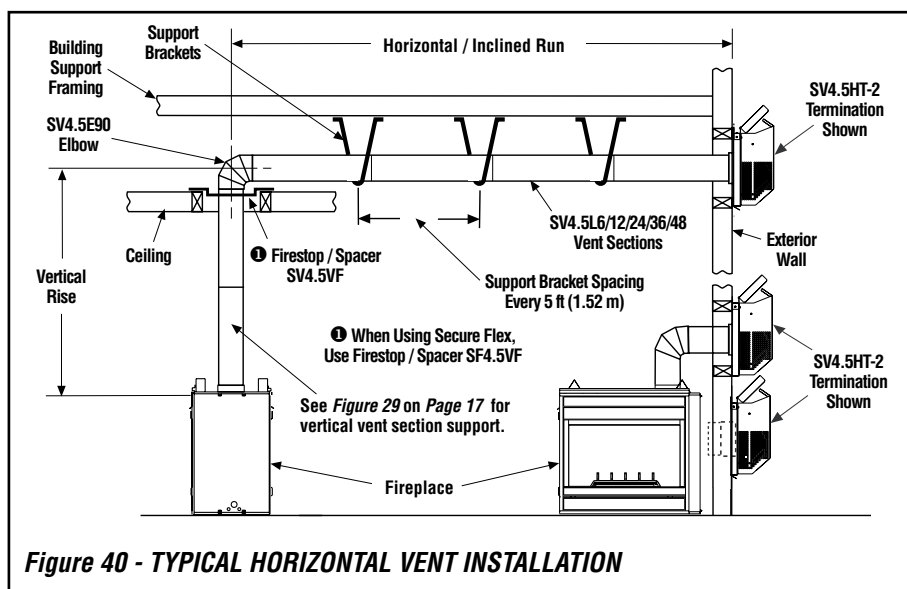

Figure 40 - TYPICAL HORIZONTAL VENT INSTALLATION
Figures 40, and Figures 43 to 48 on Pages 25 to 27 and their associated Horizontal Vent Table illustrate the various horizontal venting configurations that are possible for use with these appliances. **Secure Vent®** pipe applications are shown in these figures; **Secure Flex®** pipe may also be used. A Horizontal Vent Table summarizes each system's minimum and maximum vertical and horizontal length values that can be used to design and install the vent components in a variety of applications.
I. Continue installation of horizontal/inclined sections - Continue with the installation of the straight vent sections in horizontal/inclined run as described in **Step E**. Install support straps every 5 ft. (1.52 m) along horizontal/inclined vent runs using conventional plumber's tape. See **Figure 40**, it is very important that the horizontal/inclined run be maintained in a straight (no dips) and recommended to be in a slightly elevated plane, in a direction away from the fireplace of 1/4" rise per foot (20 mm per meter) which is ideal, though rise per foot run ratios that are smaller are acceptable all the way down to at or near level. Use a carpenter's level to measure from a constant surface and adjust the support straps as necessary.